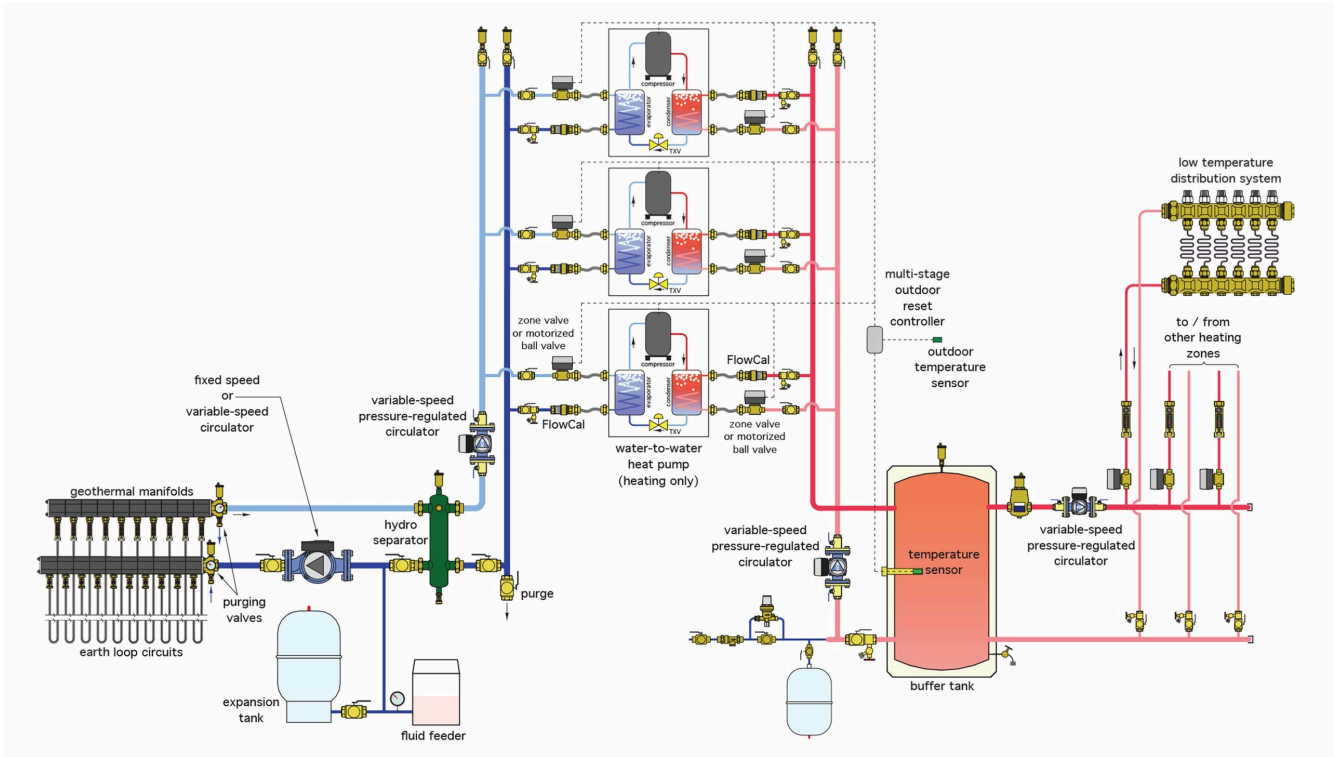

Figure 17 Multiple heat pumps supplying a multi-zone heating-only radiant system
Figure 17 below shows an example of multiple heat pumps being used to supply heating-only to a radiant floor system with multiple zones. An outdoor reset control will operate to cycle the heat pumps on and off as needed to maintain the required temperature in the buffer tank.
- Figure 17 Multiple heat pumps supplying a multi-zone heating-only radiant system © Caleffi Hydronic Solutions (<https://www.caleffi.com/usa/en-us>). Used with permission.